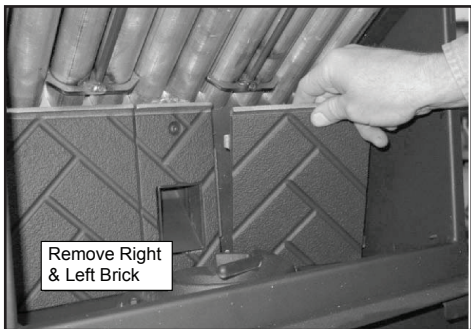

Figure 21.2
3. The top baffle must be removed before you can remove the right and left brick. Remove the right brick by holding top lip of brick and lifting up, then push outside edge back. Slide brick to the right until it is flush with the firebox. Rotate the inside edge of the brick forward and remove brick. Repeat for left brick. **Figure 21.2.**